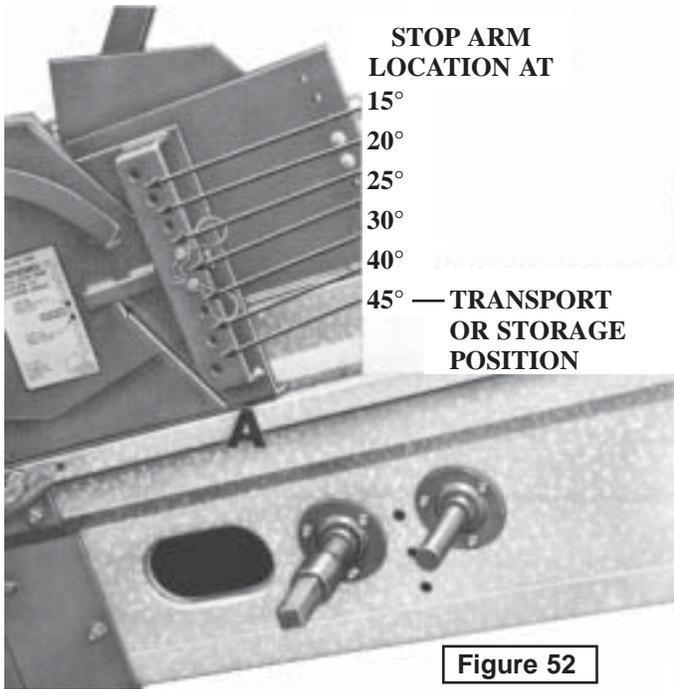

Fig. 52 -
6. Raise hopper to vertical position shown. Locate stop pins "F" according to elevation of elevator. See Fig. 52, page 21.